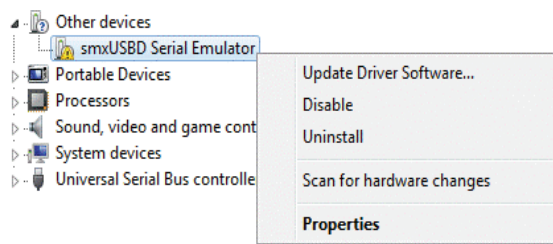

Figure 83 Device Manager Windows 8/8.1
9. Under **Other devices**, right click on **smxUSB Serial Emulator** and select **Update Driver Software** (Figure 83).